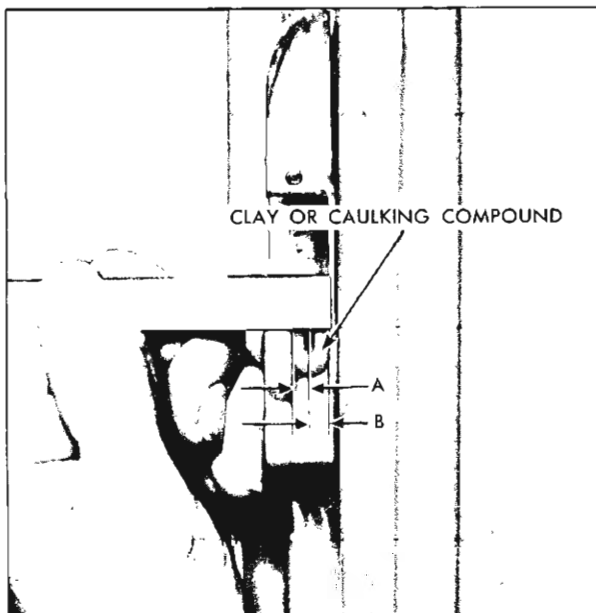

Fig. 5-19 Striker Engagement Check
b. To determine if tail gate lock striker emergency spacers are required, apply modeling clay or body caulking compound in the lock striker notch where the lock extension engages and then close the tail gate to form a measurable impression in the clay or caulking compound, as shown in (Fig. 5-19).